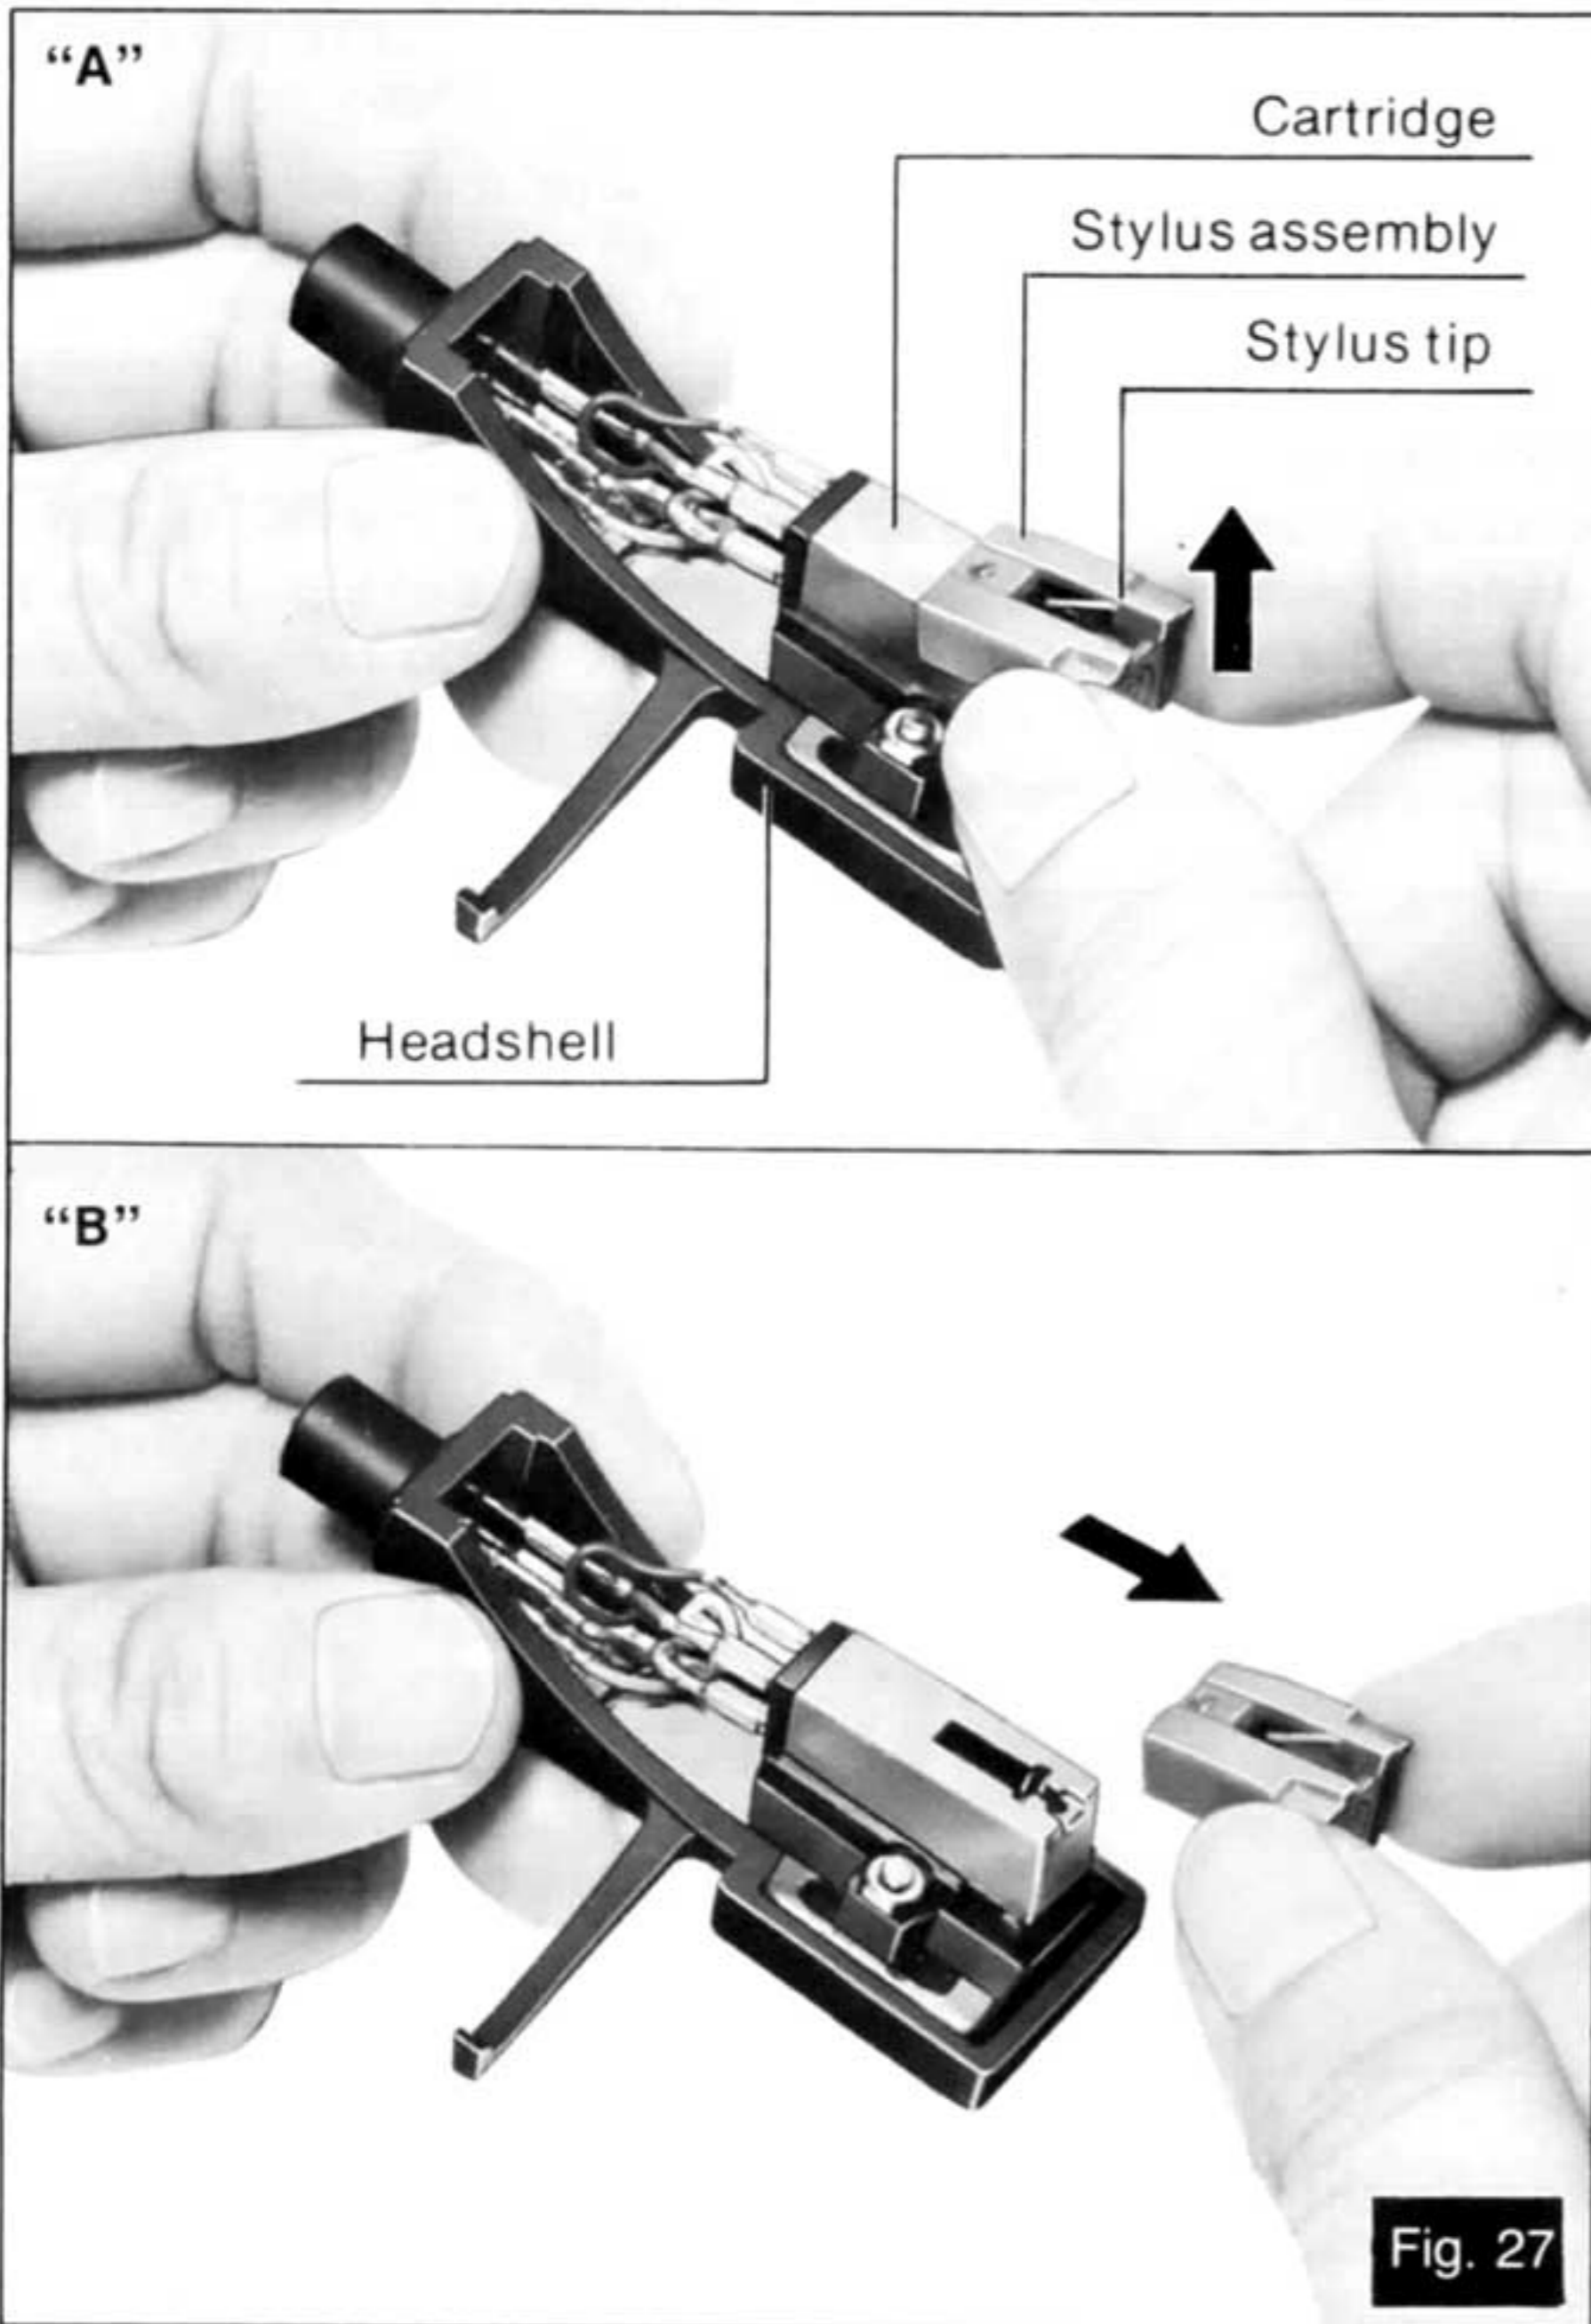

Fig. 27
- ❿ **Replacement of the stylus (for SL-235A). (See Fig. 27.)**